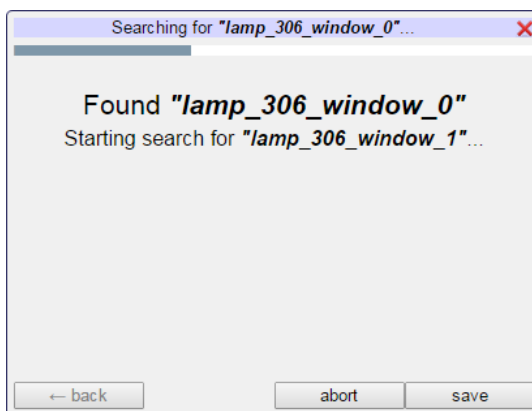

Figure 190: DALI Search Wizard: Device found.
7. A dialog as shown in Figure 190 is displayed. Then the wizard continues with the next device in the list of devices to be identified.